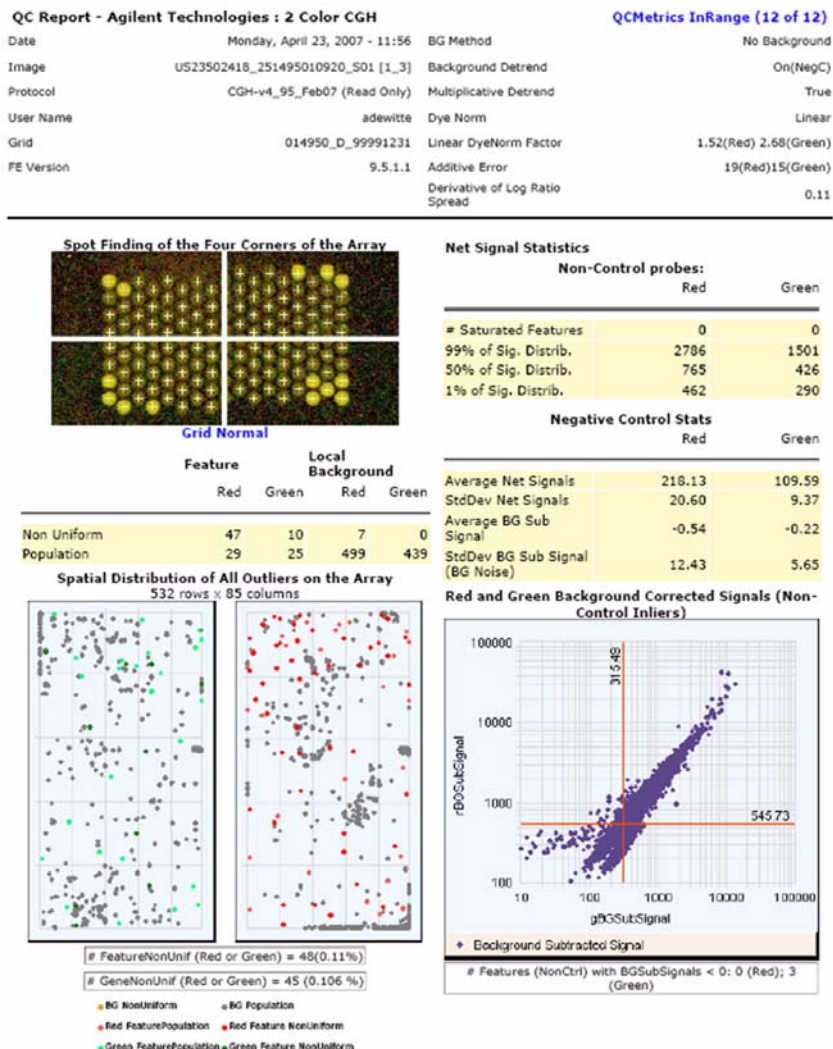

Figure 4 CGH QC report generated from Feature Extraction software v9.5, page 1
- 8 After the extraction is completed successfully, view the QC report for each extraction set by double-clicking the QC Report link in the **Summary Report** tab. Determine whether the grid has been properly placed by inspecting **Spot Finding of the Four Corners of the Array**. See Figure 4 and Figure 5.